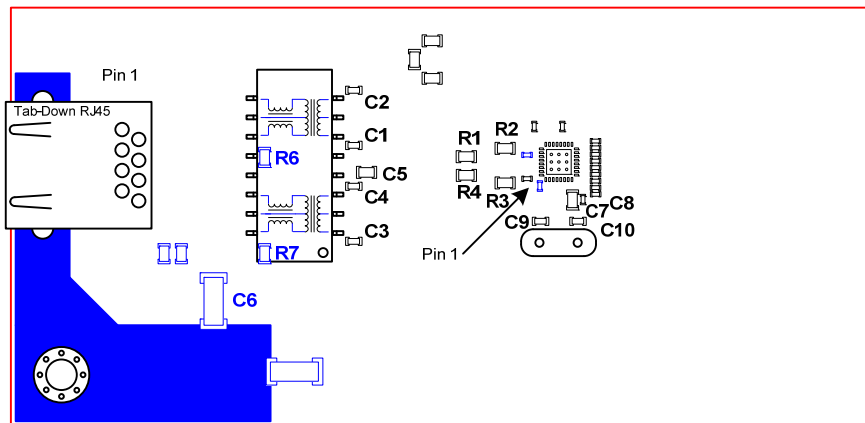

Figure No. 1
5. See Figure No. 1 for the placement of the termination resistors for the differential pairs for the LAN8741 Phy. These resistors are R1, R2, R3 & R4 in Figure No. 1.
6. Place the four optional, low-valued, common mode capacitors for each differential signal as close as possible to the magnetics. They should be placed as to create the smallest possible stub. These caps are C1, C2, C3 & C4 in Figure No. 1.
3. See Figure No. 1 below for the placement of the center tap termination components for the LAN8741 Phy. These resistors/capacitors are C5, R6, R7 & C6 in Figure No. 1.